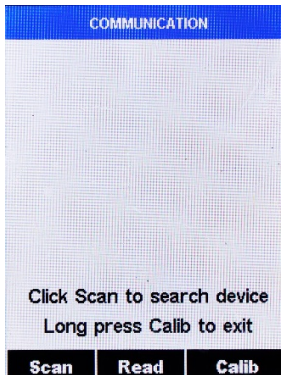

Figure 8.
3. Press **Comm** () to launch the **COMMUNICATION** screen (Figure 8).